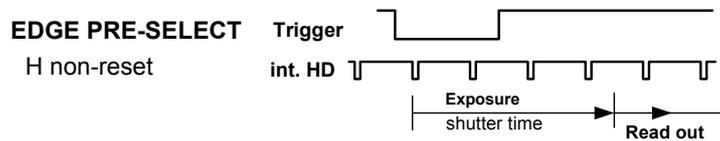
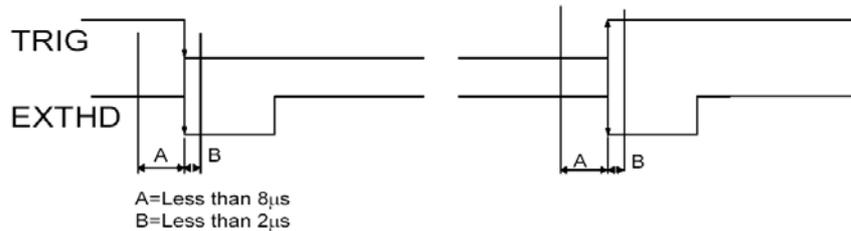

Fig. 13. H non -reset trigger
Fig. 14. External trigger and HD phase relation
These external triggering modes operate with H non-reset. In H non-reset, the exposure will be synchronized to the internal HD, and the exposure will start at the first HD after the negative going edge of the trigger. Refer to fig. 13. The exposure stops 0.5 H after the last HD pulse. To avoid the <1H exposure jitter caused by this delay, it is recommended to synchronize the external trigger to HD as shown in fig. 14.
This trigger mode operates in H non-reset mode. In H non-reset mode the exposure will start at the first internal HD after the trigger. The trigger input should be longer than or equal to 2 HD (102 μ sec.). The external trigger pulse initiates the capture, and the exposure time (accumulation time) is governed by the fixed shutter speed set up by the rear panel DIP-switches or via RS-232C control. The EEN pulse indicates the actual exposure time. The resulting video signal will start to be read out after the selected shutter time. The WEN pulse indicates the start of valid video signal. Refer to timing charts for details. A new trigger pulse must not be applied before the video read out has finished. If the camera is synchronized to an external HD signal, there are some requirements to the phase between the ext. HD and the Ext. trigger. The falling edge of the trigger should be less than 8 μ sec before the falling edge of the ext. HD and less than 2 μ sec after the falling edge of the ext. HD (see fig. 14.). Otherwise the jitter will be too high.
- The start of exposure will start synchronized to the internal H signal. The start may be shifted max 1H. To avoid this shift (1H jitter), synchronize the camera to an external HD and make sure that the trigger pulse aligns to the HD as shown in fig. 14.
This trigger mode where the length of the trigger pulse determines the exposure time operates in H non-reset mode. In H non-reset mode the trigger pulse and the HD signal are synchronized. The exposure will start at the first HD pulse after the falling edge of the external trigger signal. The exposure ends 0.5 H after the HD following the rising edge of the external trigger signal. The trigger pulse must be longer than $>1H$ ($51\mu\text{sec}$) and shorter than $2000H$. To avoid jitter the camera should be synchronized to an external HD. There are some requirements to the phase between the ext. HD and the Ext. trigger. The falling edge of the trigger should appear in the interval less than $8\mu\text{sec}$ before the falling edge of the ext. HD and less than $2\mu\text{sec}$ after the falling edge of the ext. HD and the rising edge of the trigger should be fall in the interval $8\mu\text{sec}$ before the rising edge of the ext. HD and $2\mu\text{sec}$ after rising edge of the ext. HD. (See figure 14.).
- The start of exposure will start synchronized to the internal H signal. The start may be shifted max $1H$. To avoid this shift ($1H$ jitter), synchronize the camera to an external HD and make sure that the trigger pulse aligns to the HD as shown in fig. 14.
If the camera is synchronized to an external HD signal, there are some requirements to the phase between the ext. HD and the Ext. trigger. The falling edge of the trigger should be less than 8 μ sec before the falling edge of the ext. HD and less than 2 μ sec after the falling edge of the ext. HD (see fig. 14.). Otherwise the jitter will be too high.
This trigger mode operates in H non-reset mode. In H non-reset mode the trigger and HD is synchronized. The exposure will start at the first HD pulse after the falling edge of the external trigger signal. The exposure ends 0.5 H after the HD following the rising edge of the external trigger signal. The trigger pulse must be longer than $>1H$. To avoid jitter, the camera should be synchronized to an external HD. There are some requirements to the phase between the ext. HD and the Ext. trigger. The falling and rising edge off the trigger should be within $8 \mu\text{sec}$. before the falling and rising edge of the ext. HD pulse and not later than $2\mu\text{sec}$ after the falling and rising edge of the HD pulse (see fig. 14.). The EEN pulse indicates the actual exposure time. The resulting video signal will first start to be read out after the input of an external VD signal. The readout delay should not be too long due to visible dark current noise generated in the CCD sensor. The WEN pulse indicates the start of valid video signal. Refer to timing charts for details. A new trigger pulse must not be applied before the video read out has finished.
The long time exposure is a continuous process where each external VD pulse will synchronize the camera, stop on exposure, start a new exposure and read out the previous accumulated signal. This long time exposure mode operates in H non-reset mode. In H non-reset mode the external VD signal and the internal HD signal are synchronized. The exposure will start at the first HD pulse after the falling edge of the external trigger signal. See figure 14. for the phase relationship between ext. HD and ext. VD pulses.